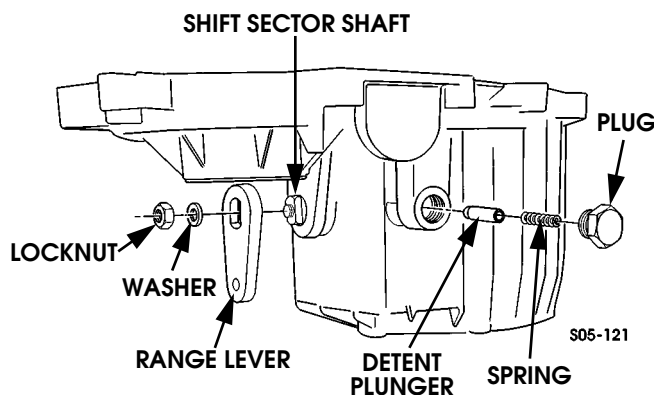

Figure 5-156: Range Cover and Shift Detent Installation
20. Install detent plunger, spring, and plug. Replace O-ring on plug before hand and tighten plug to 12-18 lb-ft (16-24 N•m) (Figure 5-156).
21. Install range lever on sector shaft, then secure lever with washer and nut (Figure 5-156). Tighten nut to 20-25 lb-ft (27-34 N•m).